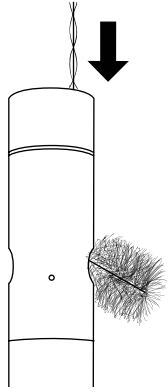

Figure 62 Channel brush
2. Insert the brush at the top of the channels, and sweep the channels 15 to 20 times (Figure 62).